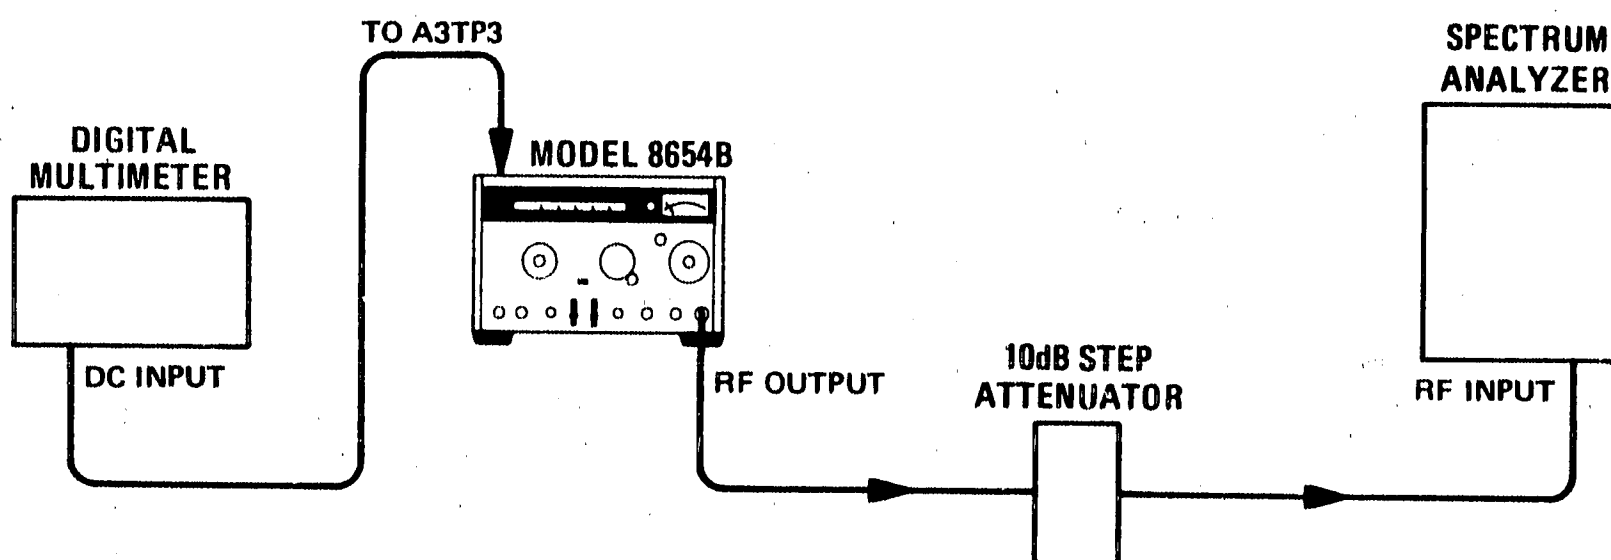

Figure 5-1. Detector Bias and AM Distortion Adjustment Setup
3. Connect equipment as shown in Figure 5-1 after setting Signal Generator controls as follows: